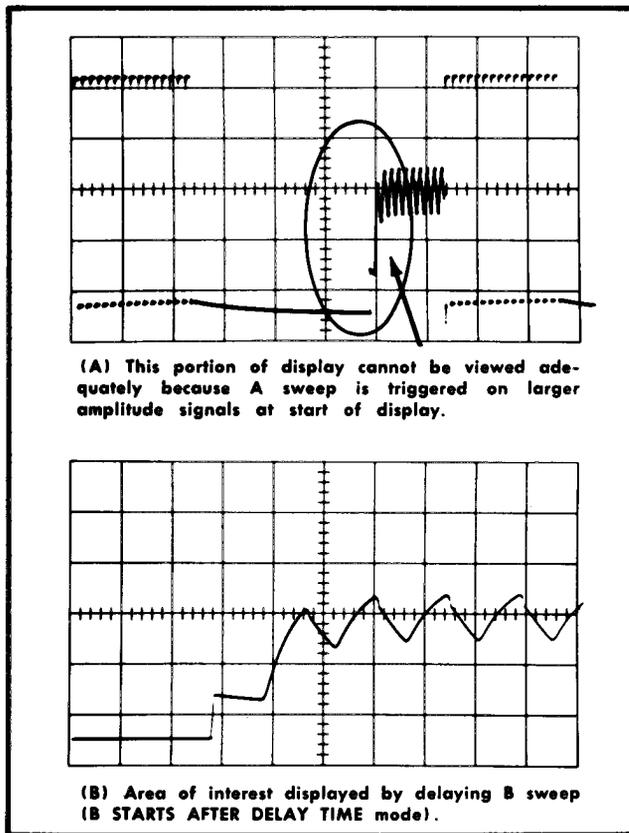

Fig. 2-22. Displaying a complex signal using delayed sweep.
8. Set the HORIZ DISPLAY switch to DELAYED SWEEP (B).
**Example.** Fig. 2-22 shows a complex waveform as displayed on the CRT. The circled portion of the waveform cannot be viewed in any greater detail because the sweep is triggered by the larger amplitude pulses at the start of the display and a faster sweep rate moves this area of the waveform off the viewing area. The second waveform shows the area of interest magnified 10 times using Delayed Sweep. The DELAY-TIME MULTIPLIER dial has been adjusted so the delayed sweep starts just before the area of interest.